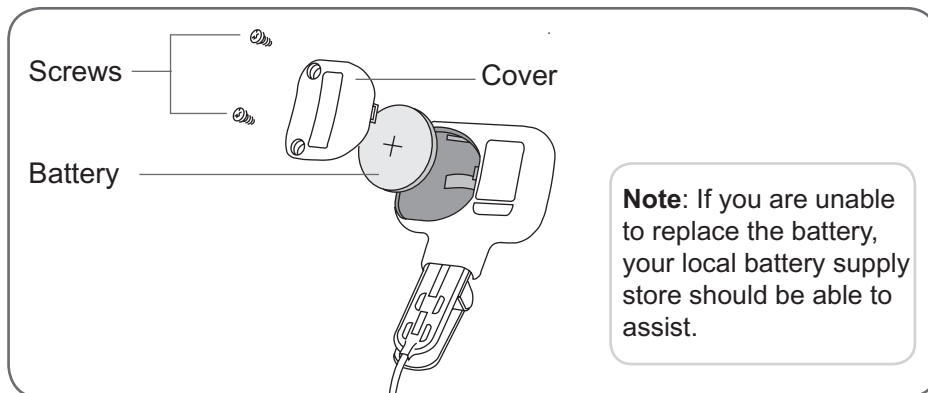

Figure 9-4: Replacing the Intelli-Sense Gait Sensor battery.
1. Using a Phillips screwdriver, unscrew the two screws from the battery cover. See Figure 9-4.